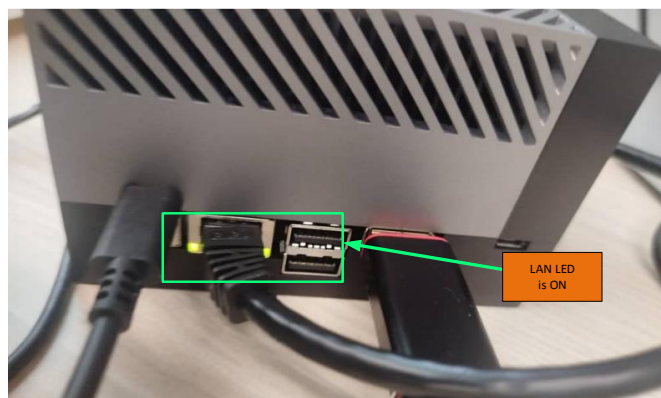

Figure 8.6. LAN Light Indication on Host
- Workaround 2: Confirm that the LAN cable is properly connected to both the SFP module and the host LAN port. If the connection is correct, the LAN indicator light should be on, as shown in Figure 8.6.